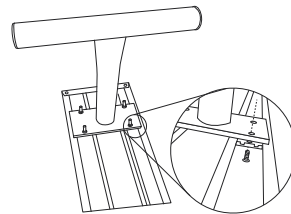

Figure 2
2. Place one leg frame at a time 6" from the end of the seat plank. (See Figure 2)